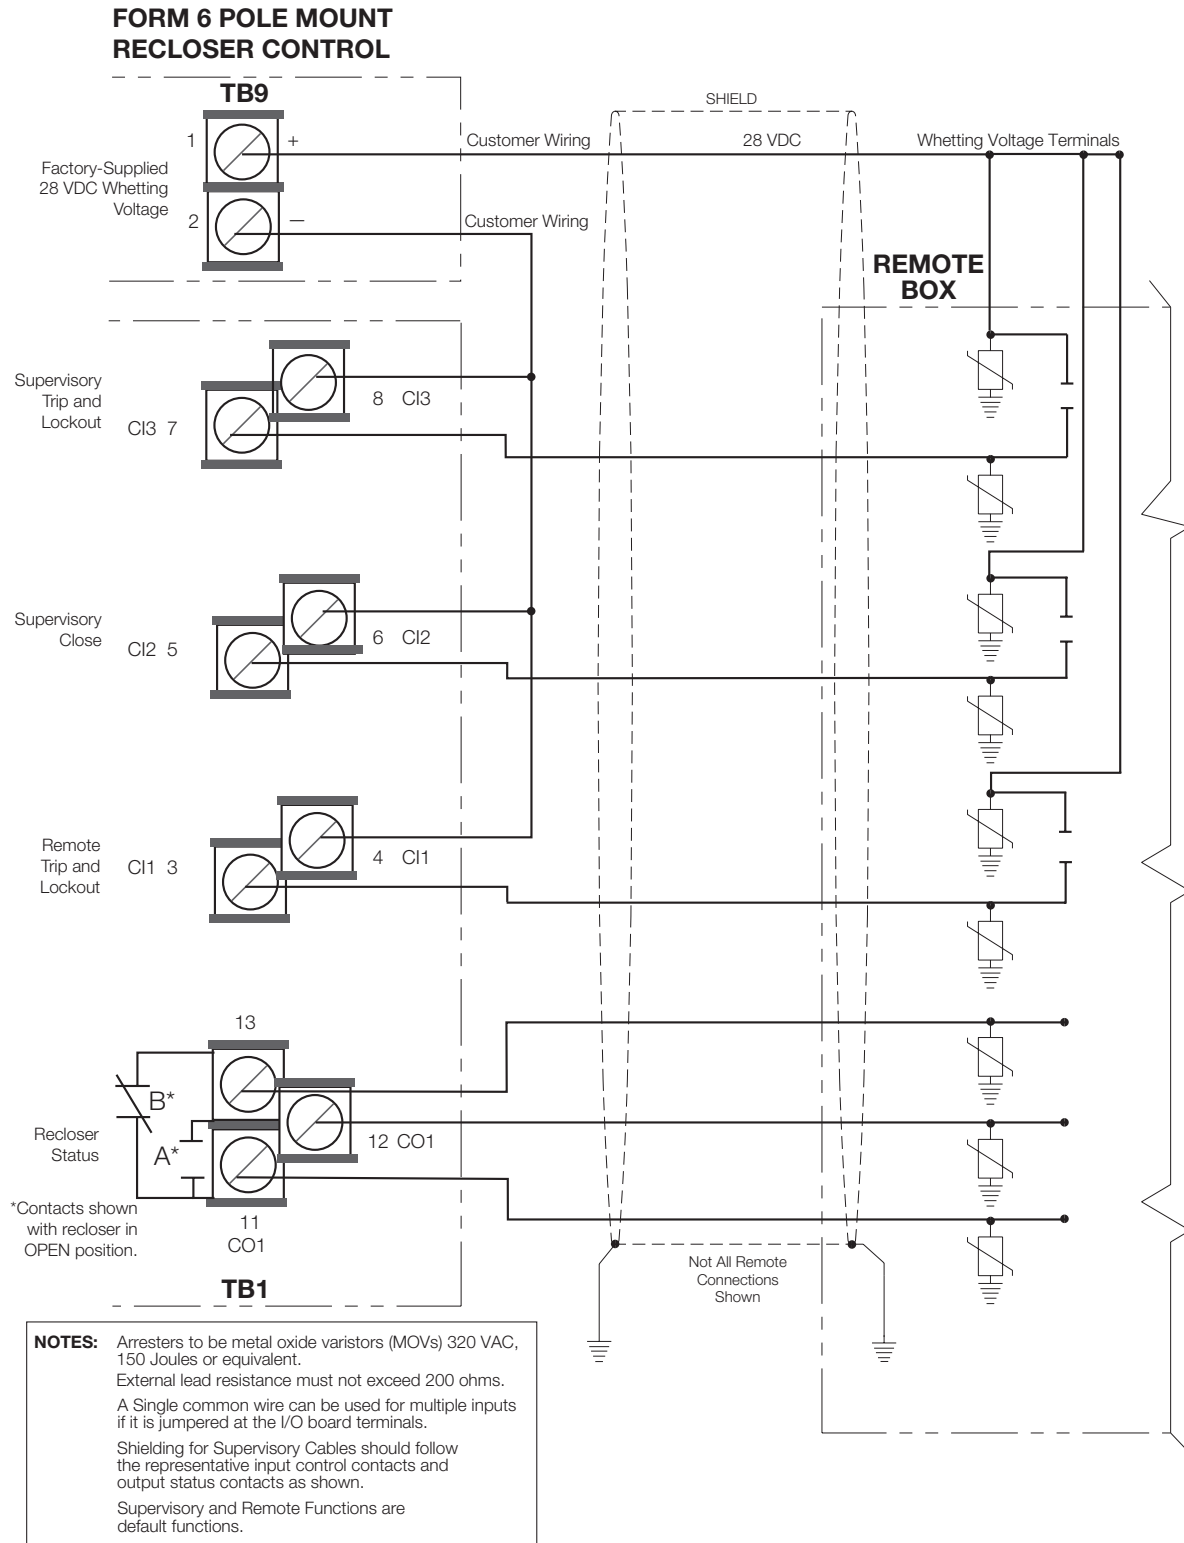

Figure 21. Shielding and surge protection for supervisory and remote cables
All supervisory operation and control monitor leads must be protected within shielded cables. Refer to **Figure 21**.
** Whetting voltage is available from the Form 6 Recloser Control on Terminal Block TB9. Refer to Figure 21.
12. Customer connections for remote and supervisory operation checked and completed in accordance with proper shielding and surge protection (**Figure 21**).